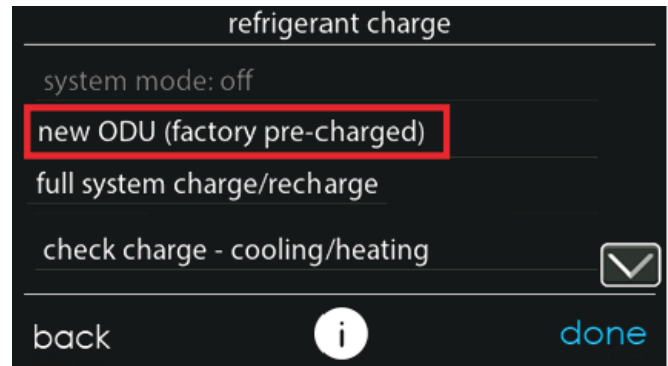

Fig. 14 – Refrigerant Charge Mode Selection
- For new installations, select "new ODU (factory pre-charged)" from the refrigerant charge screen to begin charging the system (Fig. 14). For applications where there is no charge in the ODU, select "full system charge/recharge".